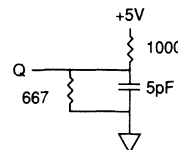

Fig. 2 OUTPUT LOAD EQUIVALENT
6. ^tHZCS, ^tHZOE, and ^tHZWE are specified with CL = 5pF as in Fig. 2. Transition is measured ± 500mV from steady state voltage.